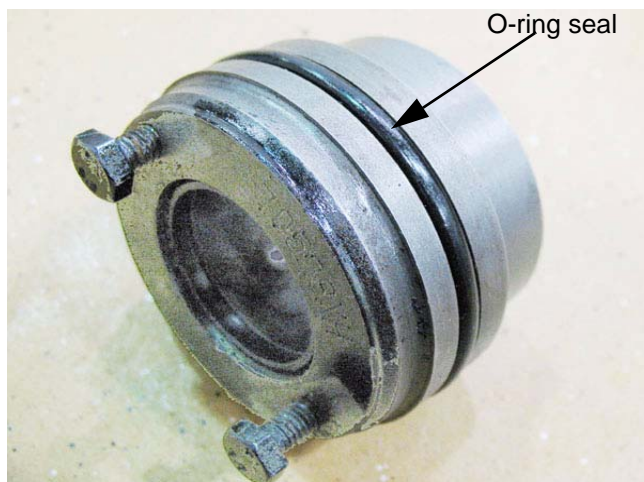

Figure 5.25
- 3.22. Carefully pry the O-ring seal out of the groove in outside diameter of the end cap. See Figure 5.25.